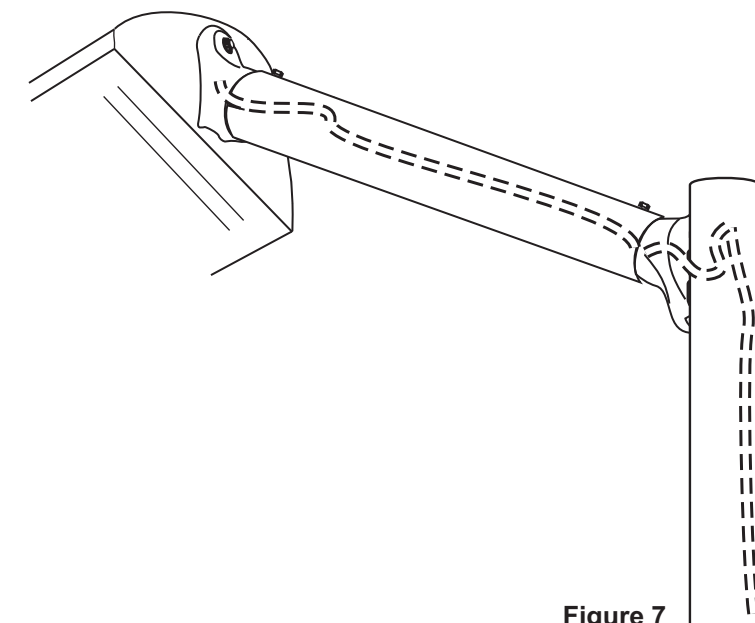

Figure 7
4. Make supply wiring connections at handhole in pole (See Fig. 7).